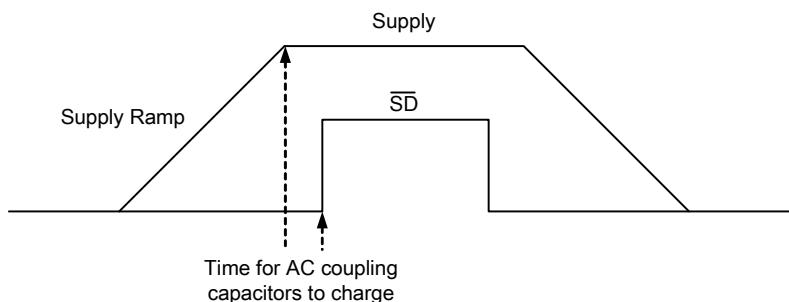

Figure 1. Power-Up Sequence
Pop-free power up is ensured by keeping the \overline{SD} (EN) (shutdown pin) low during power supply ramp up and down. The EN pin should be kept low until the input AC coupling capacitors are fully charged before asserting the EN pin high. This way proper precharge of the AC coupling is performed, and pop-free power up is achieved. Figure 1 illustrates the preferred sequence.